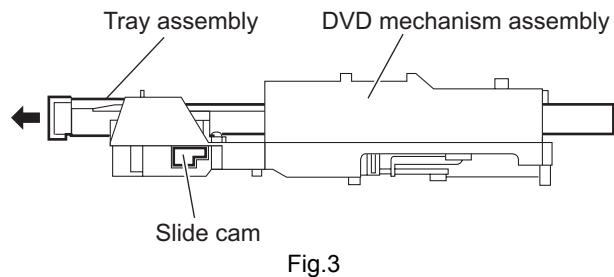

Fig.3
(See Figs.3 and 4)
- (1) From the right side of the DVD mechanism assembly, push the slide cam and pull the tray assembly out of the DVD mechanism assembly in the direction of the arrow. (See Fig.3.)